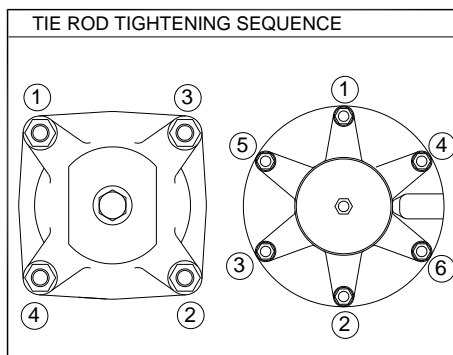

FIGURE 9
- X. Install lubricated cylinder o-ring (46) in adaptor (26) groove.
- Y. Lubricate piston seal (31) with "Dow Corning #55" lubricant and install on piston (25).
- Z. Lubricate piston bearing (35) and cylinder (24) with "Dow Corning #55" lubricant. Hold piston bearing (35) in place on piston (25) and slide cylinder (49) over piston and bearing until cylinder is in contact with o-ring (46) in adaptor (26) groove.
- AA. Place cylinder o-ring (46) in endcap (54). Insert long bolts (51) with flat washer (53) in endcap (54).
- AC. Mount endcap over extended spring(s) and fasten to hollow tie rods (50) with bolts (51). To prevent galling, lubricate bolts (51) with "Whitmore's Omnitemp II" grease or equal. Alternately and uniformly tighten bolts (51) in hollow tie rods. Tighten each bolt approximately $\frac{1}{4}$ " – $\frac{1}{2}$ " following the sequence shown in Tie Rod Tightening Sequence (FIGURE 9) until spring is completely compressed. Be sure that each hollow tie rod slides into the counterbore in the endcap. Do not over tighten bolts. Refer to Assembly Torque Requirements Table (FIGURE 10).
- AD. Install position indicator (13) and pointer (16), where applicable. Assemble adjusting screws (52), thread seals (36) and jam nuts (38).